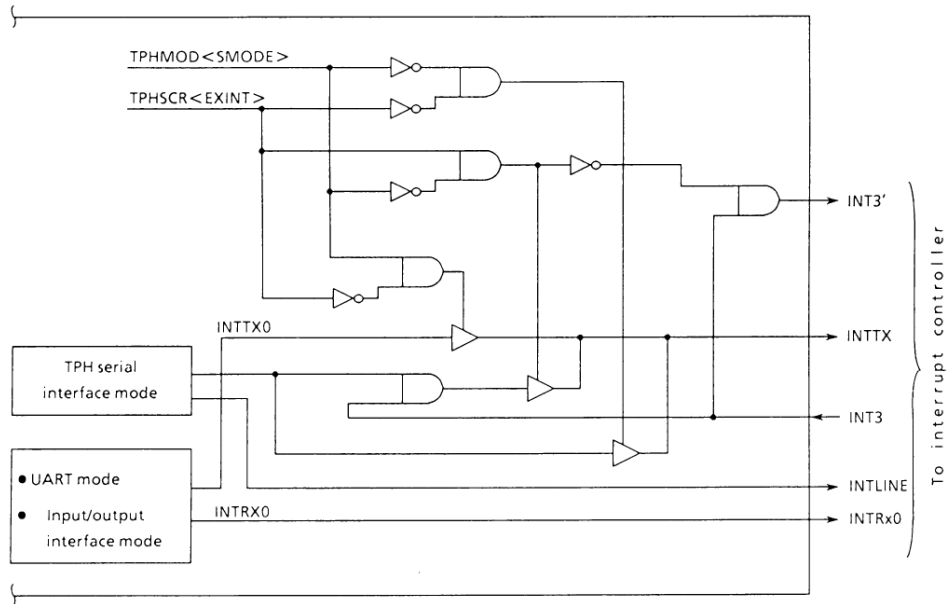

Figure 3.10 (1). SIO Channel 0 Interrupt Generation Circuit
Set the TPHMOD <SMODE> to "1" and the TPHSCR <EXINT> to "0". Figure 3.10 (1) shows the SIO channel 0 interrupt generation circuit.